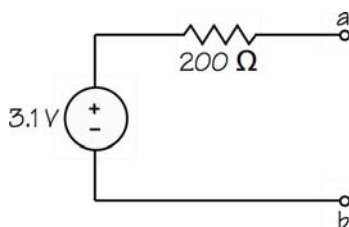

Fig. 1—Thévenin equivalent
Our goals are to determine the Thévenin characteristics of a particular source and then use that information to find the operating point of the LED from Lab A4. The circuit of Fig. 1 is the Thévenin equivalent source, which we will end up connecting to the LED.
2. Build the circuit of Fig. 1, which is just the battery pack and one resistor. Don't put the 1-kΩ pot into the circuit yet.